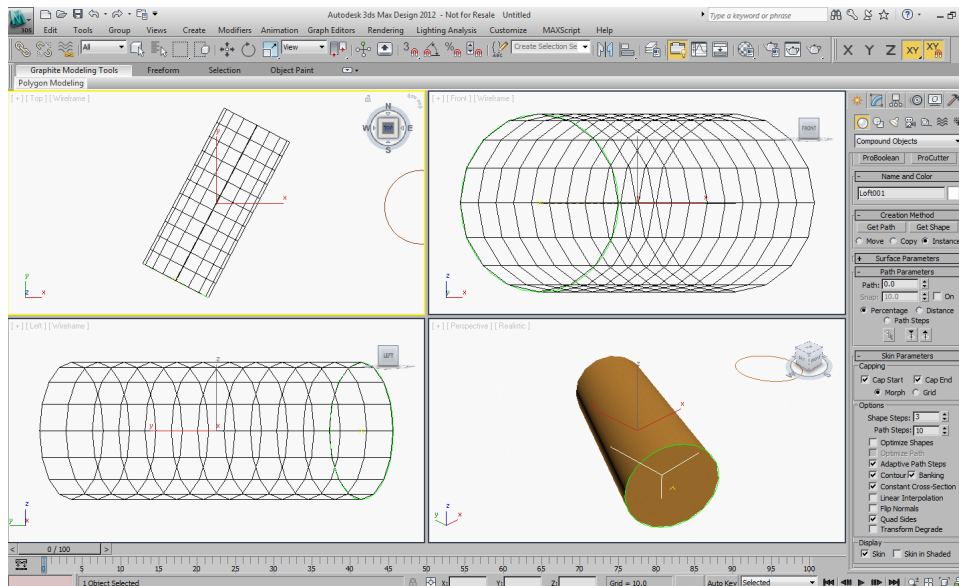

Figure 9-2 The circle is lofted along the line.
9. Pick the **Zoom Extents All Selected** button to zoom the loft object to its extents,  **Figure 9-2**.